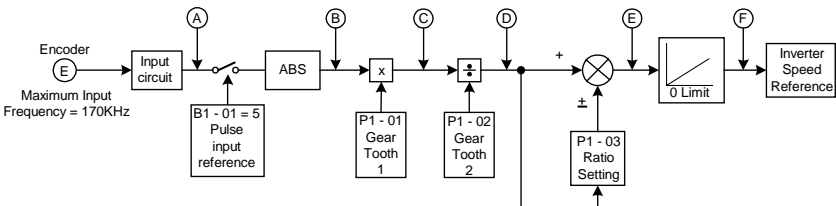

**FIGURE 5 - CONNECTION EXAMPLE WITH ENCODER WHEN USING SEPARATE POWER SUPPLY**
*NOTE: THE MAXIMUM CURRENT AVAILABLE IS 200 MA . IF THE ENCODER REQUIREMENTS EXCEED THIS THEN AN EXTERNAL SUPPLY MUST BE PROVIDED. (SEE FIGURE 5)*
If the encoder current requirements is 200 mA or greater, provide a separate power supply. (If momentary power loss ride-through function is necessary, provide back-up capacitor Figure 5 or take other necessary measures.)